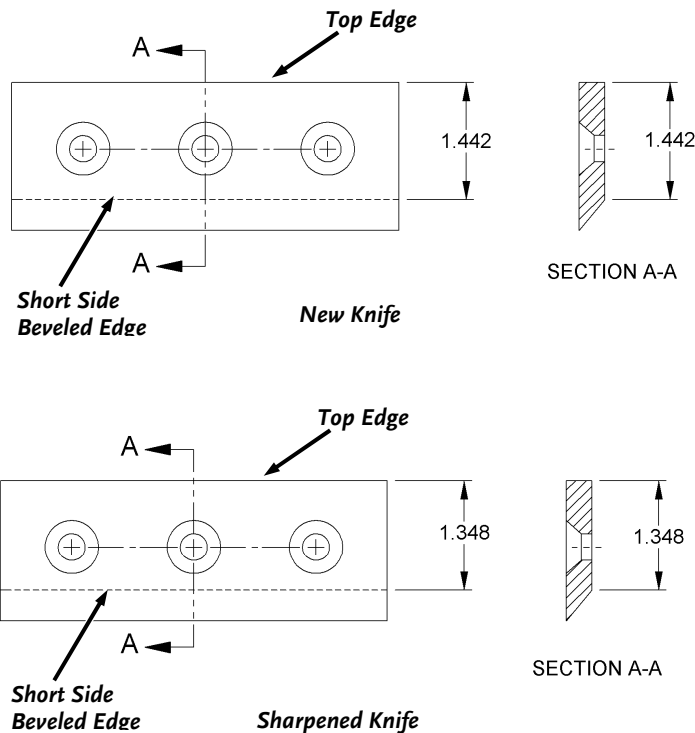

Figure 39
- A new Chipper Knife has 1.442" measurement between the short side bevel edge and the Knife Top Edge (**Figure 39 "New Knife"**).
- Once this measurement is below 1.348" (see **Figure 39 "Sharpened Knife"**), or if you are unable to remove dents or gouges with these guidelines, replace the Knife.